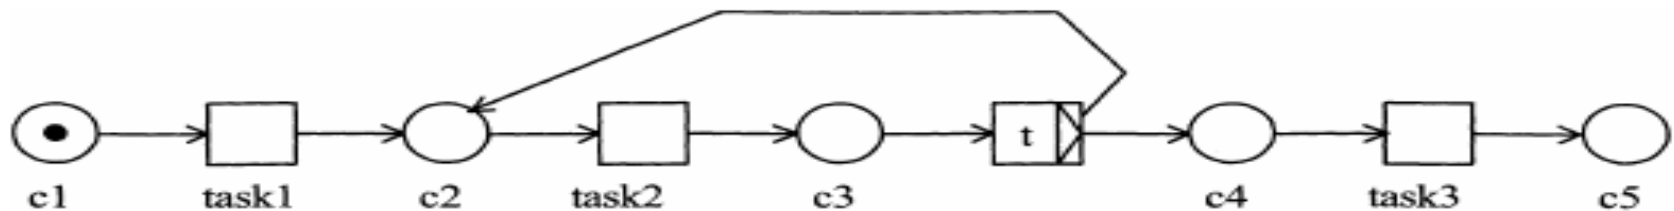

Figure 2.22
- Fig 2.22: repeat ... until ...